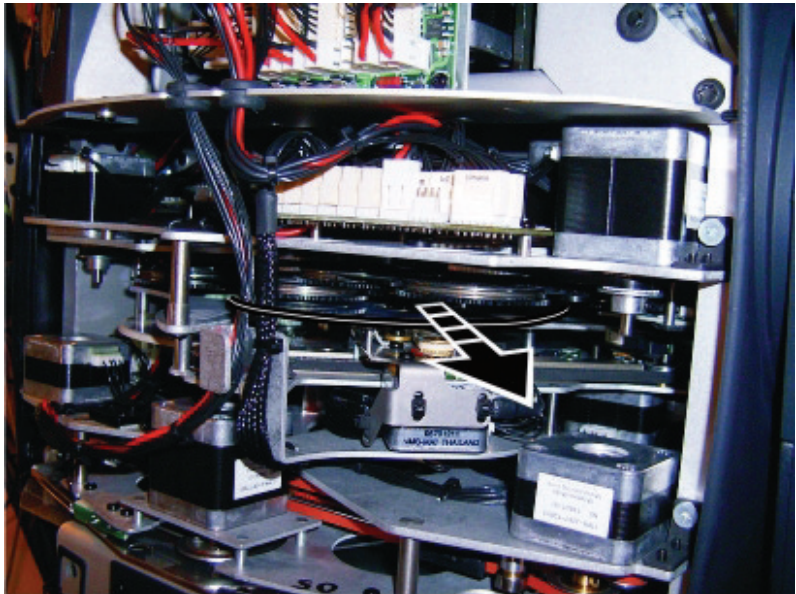

Figure 25: Animation wheel removal
4. The animation wheel is retained by a magnetic hub. To avoid breaking the animation wheel while removing, release the hub by gently levering the hub off its mounting with a screwdriver. Do not apply pressure to the animation wheel itself. See Figure 25. Once the hub is released, you can safely grasp the wheel and remove it.